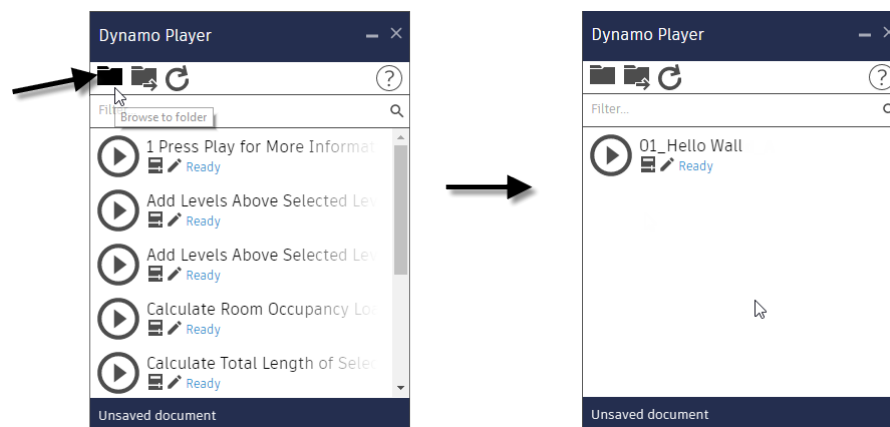

Figure 3
5. Browse to: *[Local location of the lab datasets]*⁴ and then click OK (see Figure 3).